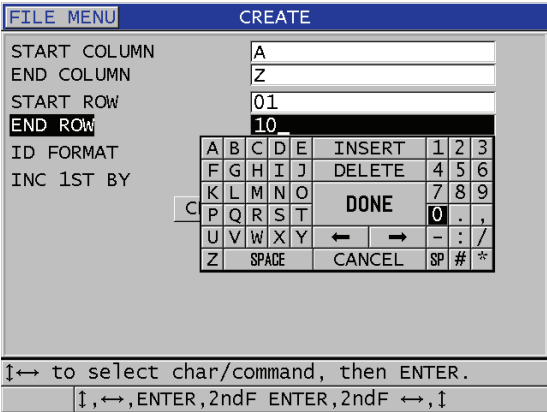

Figure 11-10 Configuring the ID range for a 2-D grid data file type
3. In the second page of the **CREATE** screen (see Figure 11-10 on page 166):